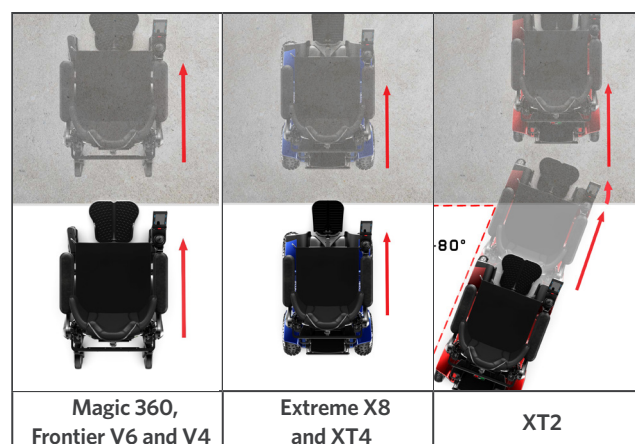

Figure 3.1 Approaching an obstacle
- Magic 360, Frontier V6 and V4, Extreme X8 and XT4: Always approach an obstacle so both front wheels touch the obstacle together (Figure 3.1)
- XT2: Approach the obstacle so both wheels touch the obstacle together or on a slight angle (Figure 3.1)